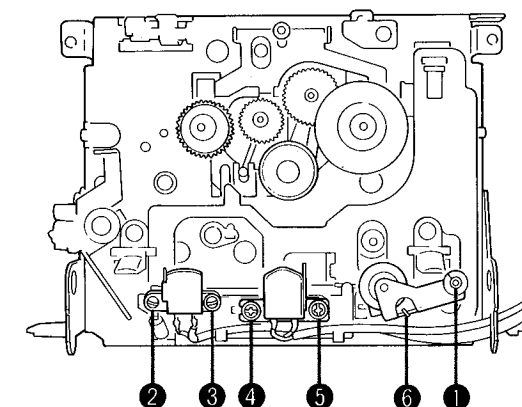

Fig. 12
2. Remove the lock washer 1 in Fig. 12 and remove the actuator of pinch roller spring 6 in Fig. 12 and then pull out the pinch roller.
3. Remove the screws 2 and 3 in Fig. 12 and then remove the erase head.
4. Remove the screws 4 and 5 in Fig. 12 and then remove the record/playback head.
- * Be careful not to lose the spring which are attached to the screws 2 and 4 in Fig. 12.